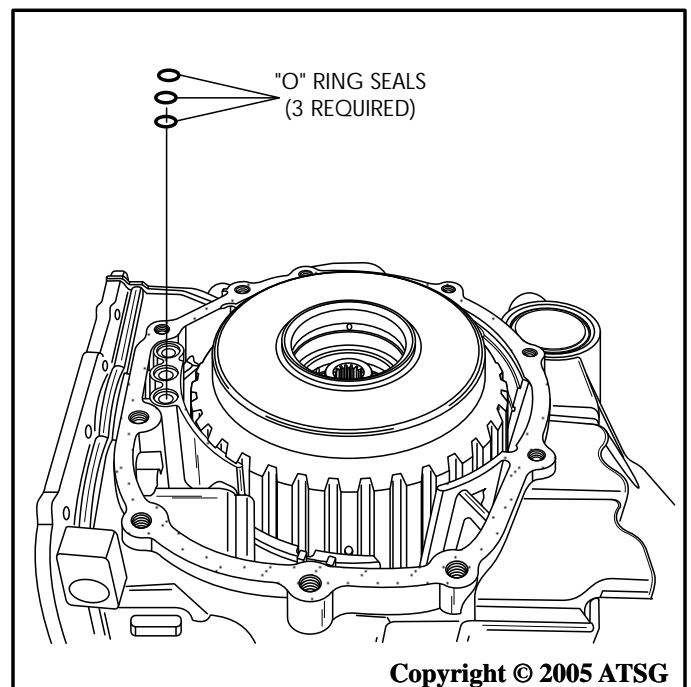

Figure 189
75. Install the 3 "O" ring seals into the pockets of the case, as shown in Figure 189, and retain with a small amount of Trans-Jel®.